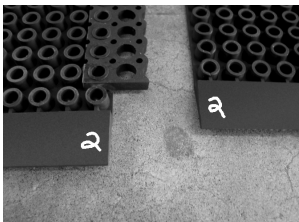

Fig.1
2. Before assembling the runner, lay out each mat section in the appropriate sequence. Sequence numbers can be found on the back of each section along the molded rubber edge. Match the numbers so the number on one section is next to the same number on the next section. (Figures 1 - 3)